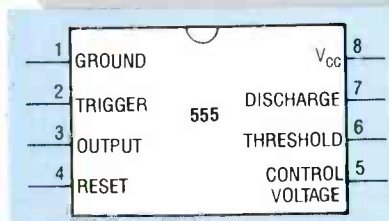
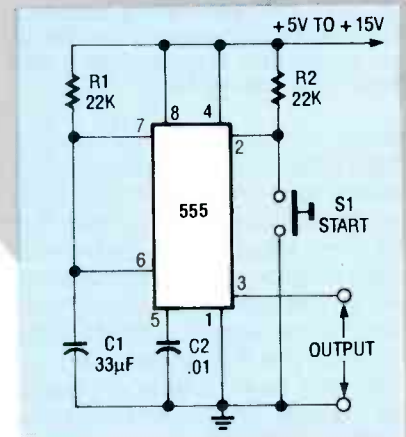
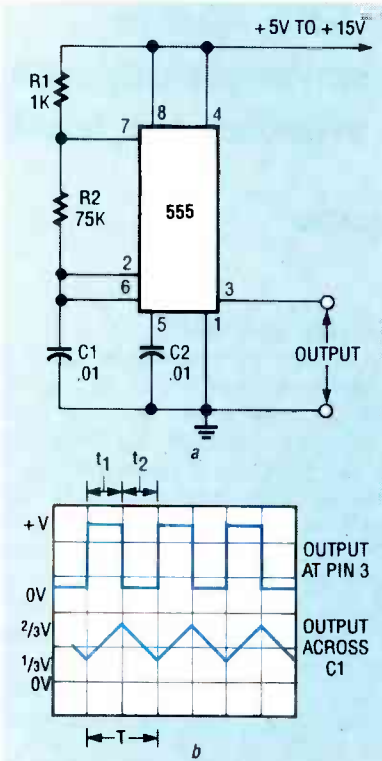
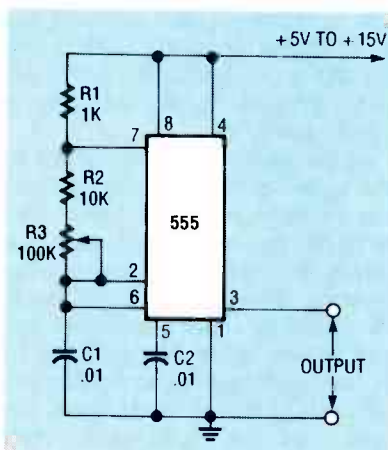

FIG. 1—PINOUT DIAGRAM OF THE 555.
FIG. 2—MONOSTABLE MULTIVIBRATOR TIMING CIRCUIT based on the 555.
FIG. 3—A ONE-KILOHERTZ ASTABLE MULTIVIBRATOR based on the 555, a, and waveforms at output pin 3 and across C1 are shown in b.
FIG. 5—THIS SQUARE-WAVE GENERATOR produces a variable frequency of 650 Hz to 7.2 kHz.
**FIG. 2—A GOOD ETHERNET CABLE** appears like this on a time domain reflectometer (TDR), which shows impedance vs. distance. The vertical line in *a* marks the end of the cable. In *b*, the vertical line represents a bad cable tap. The TDR can “zoom” into the display, and *c* shows an expanded view of the bad tap.
The 1502C displays distance vs. impedance on an LCD screen. The display shows, along the entire length of the cable, a continuous “snapshot” of impedance, which in our case was supposed to be about 50 ohms. Shorts cause the trace to drop to 0 ohms, and opens cause the trace to rise off the display. In operation, you look for suspect drops and rises, read the distance directly off the display, and start troubleshooting at the specified location. Figure 2 shows several examples of TDR displays.
The last article on the 555 as a monostable multivibrator included a functional block diagram and an electrical schematic of the chip. You might want to refer back to those figures if you want more detailed information about how the 555 is organized. Figure 1 is a pin-out diagram of the 555 as packaged in the most common 8-pin DIP. It was pointed out in the last article that, although a mature device, the 555 remains one of the most popular IC's available today.
generates a fixed-length output pulse for each trigger pulse at its input. This can be demonstrated with the circuit in Fig. 2. By contrast, the 555 in an *astable* multivibrator circuit is shown in Fig. 3. It has no stable output states and no external
In the monostable multivibrator circuit in Fig. 2, OUTPUT pin 3, DISCHARGE pin 7, and THRESHOLD pin 6 are held low when the circuit is quiescent. A monostable timing period can be started by driving TRIGGER pin 2 low with pushbutton switch S1. That causes OUTPUT pin 3 to switch high, while DISCHARGE pin 7 is released and free to follow the voltage across C1. Voltage rises exponentially through R1 toward the supply
Examine the astable circuit shown in Fig. 3-a. In this circuit TRIGGER pin 2 is shorted to THRESHOLD pin 6, and timing resistor R2 is wired between pin 2 and DISCHARGE pin 7. When power is applied to the circuit, capacitor C1 charges exponentially (as it did in Fig. 1) through resistors R1 and R2 until the voltage on C1 reaches two-
Notice that in Fig. 3-a, the value of R2 is very large with respect to the value of R1. It turns out that the oscillation frequency of the circuit is largely determined by the values of R2 and C2. Figure 3-b shows the nearly symmetrical square output waveform that appears between OUTPUT pin 3 and ground while a nearly linear triangle waveform is simultaneously generated across C1.
The graph of Fig. 4 shows the relationship between the free-running frequency of the circuit in Fig. 3-a and the capacitance values of C1 with the range of R2 values shown on the diagonal lines. In this graph the contribution of resistor R1 is neglected because it is a fraction of the R2 value.
FIG. 4—THE FREE-RUNNING FREQUENCY OF OSCILLATOR in Fig. 3 as a function of capacitance values for C1 and the resistance value of R2 (when large with respect to R1).
Refer to Fig. 3-b. Pulse width (or time to charge capacitor C1 is:
The circuit in Fig. 3-a can be modified in many different ways. Figure 5, for example, shows how it can be made into a variable-frequency square-wave generator by replacing R2 with a fixed resistor and potentiometer in series. The frequency can be varied over a range of about 650 Hz to 7.2 kHz with the values of the resistor and potentiometer R3 shown. If required, the frequency span can be further increased by switch-selecting alternative values of C1.
The circuit in Fig. 3-a can generate a fixed-frequency output waveform with any desired pulse width-to-space length ratio by selecting the appropriate values for R1 and R2. In each operating cycle, C1 alternately charges through R1 and R2.